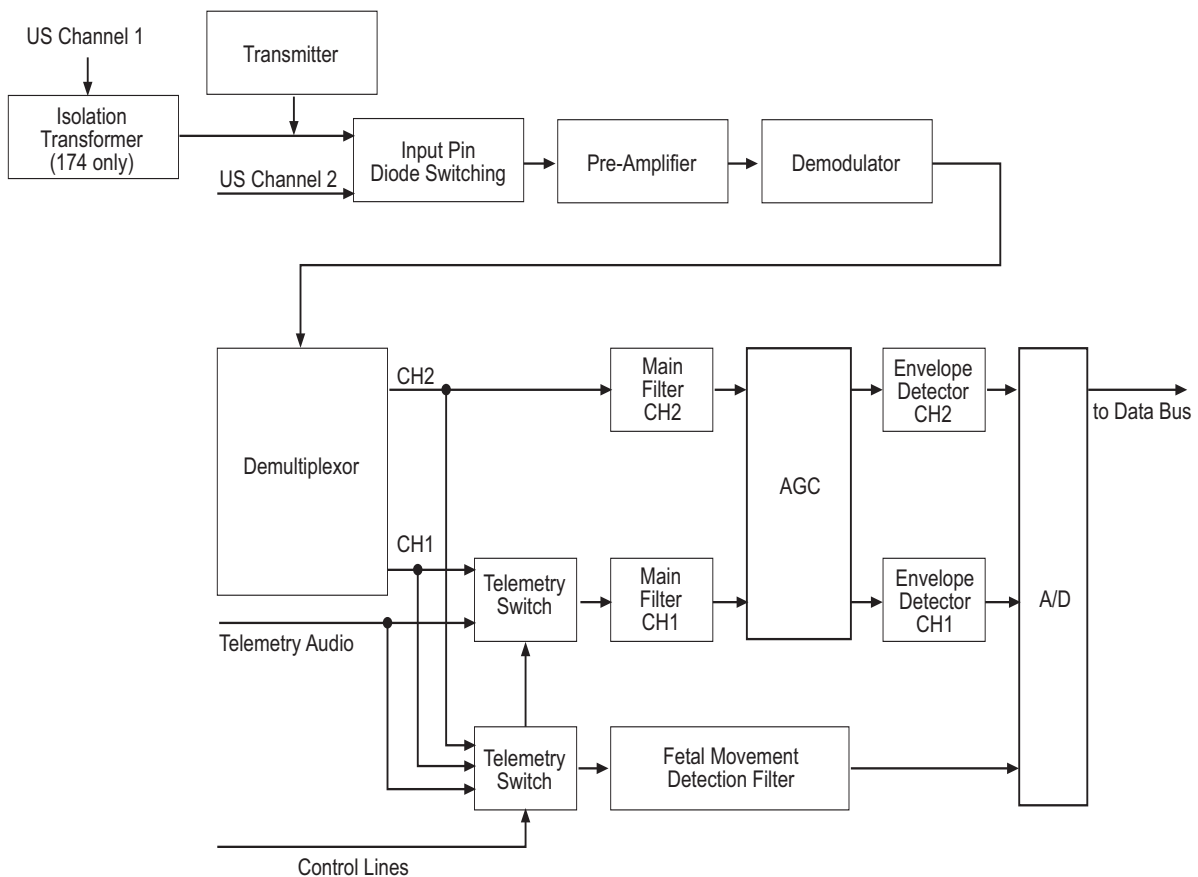

Figure 5-17. Ultrasound Module Block Diagram
**Table 5-19** provides a summary of PAL outputs. **Figure 5-17** provides a block diagram of the ultrasound module.